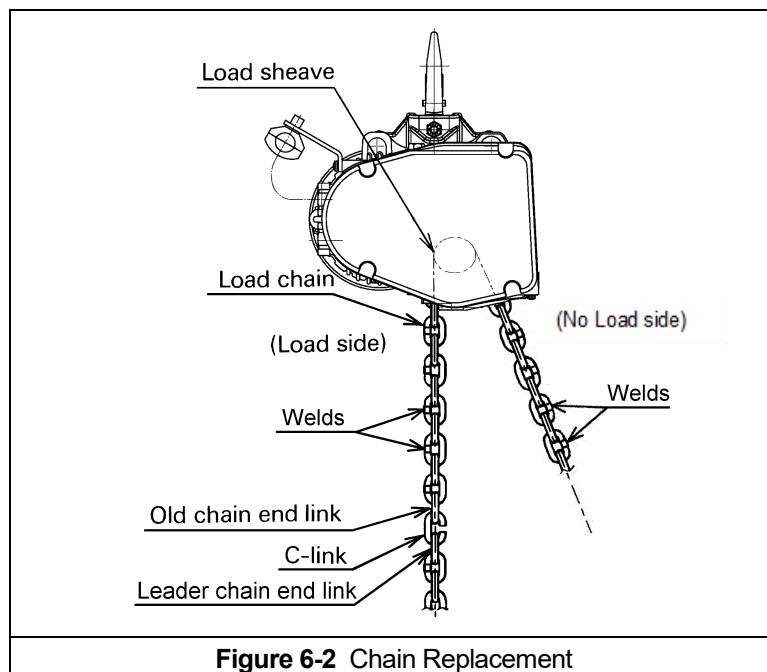

Figure 6-2 Chain Replacement
- 4) Using a C-link, attach the new chain to the end link of the old chain on the load side. The end link of the new load chain should be connected so that the welded portions of the load chain's standing links are oriented to the outside as they pass over the sheave. Refer to **Figure 6-2**.